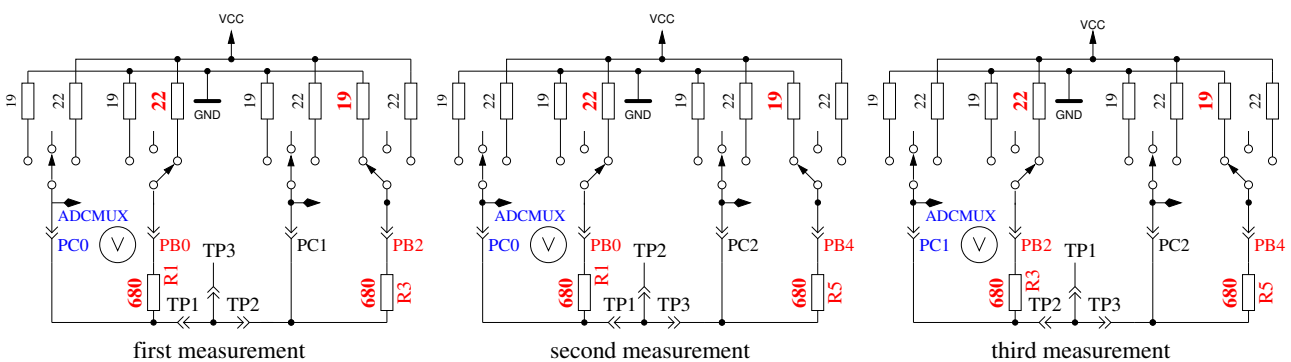

Figure 4.23: Comparison of 680Ω resistors
2. Comparing of the 680Ω resistors. In row 1 the cryptic text +RL- 12 13 23 is shown. Meaning of this is as follows: The RL is the short form of Resistor Low meaning the 680Ω resistors. The 12 stand for: resistor at pin 1 is connected to VCC (+) and resistor at pin 2 is connected to GND (-). The result of this measurement is displayed in row 2 at the first place. In row 1 follows now a 13 which means, that the first connection of measurement 1 is still connected with 680Ω to VCC but that the resistor of pin 3 is connected to GND. The result is displayed in the middle place of row 2. The last measurement of this test 23. means that now the resistor at pin 2 is connected to VCC (+) and the resistor of pin 3 is connected to GND. The result of measurement is displayed at the last place of LCR row 2. Please remember, that the resolution of the ADC is about 4.88mV! The measurement situation is also shown in figure 4.23. All these combinations with respect to the internal resistance of the pins should result to:  $\frac{5001 \cdot (19+680)}{(19+680+680+22)} = 2493$ .